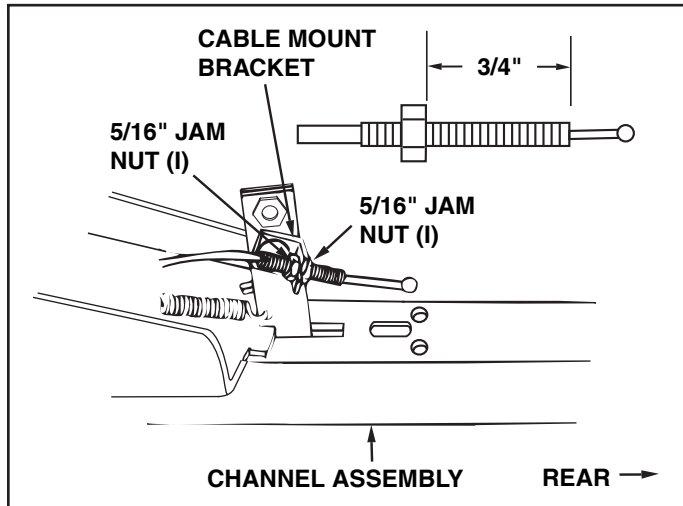

FIGURE 19 (Left Hand Side View)
STEP 5: (SEE FIGURE 19)
- Assemble one 5/16" jam nut (I) approximately 3/4" onto threaded end of control cable that has no rubber cap or preassembled nuts. Assemble threaded cable end through round hole in cable mount bracket and secure with another 5/16" jam nut (I). **Tighten.**